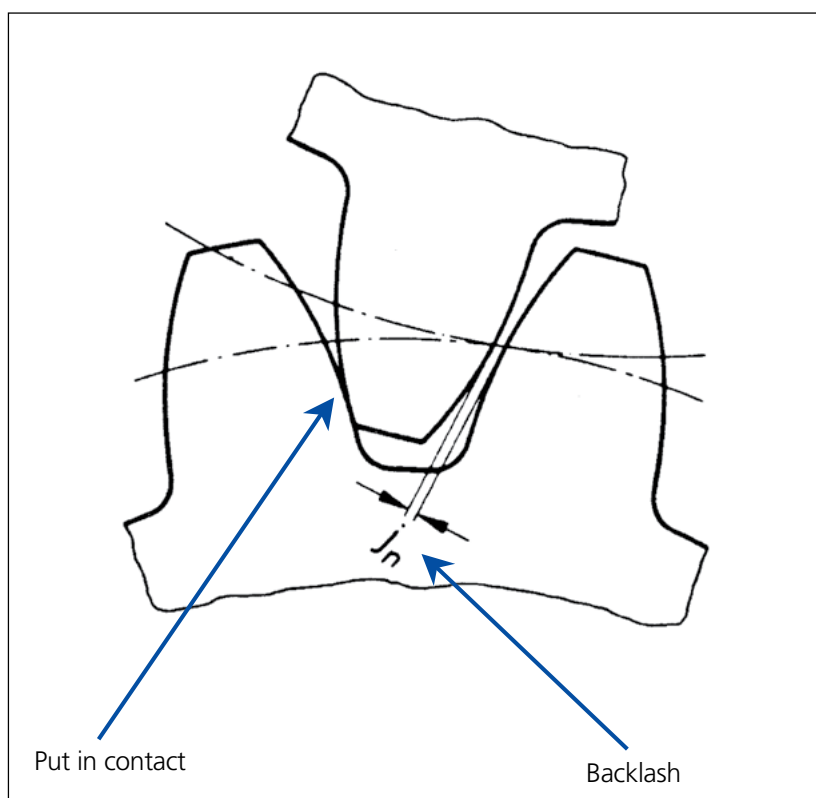

Fig. 1
- 1.3. Put in contact one flank of the pinion with the correspondent flank of tooth gear. (Fig.1)
- 1.4. Measure the backlash by feeler-gauge or lead-wire. (Fig. 1)